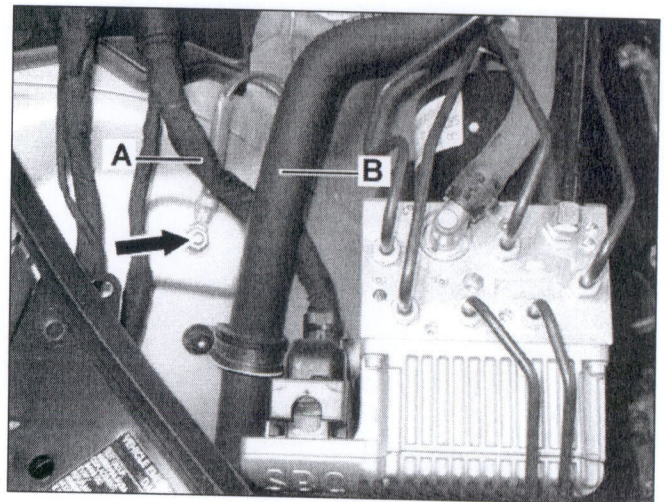

Figure 27
- Ensure wiring harness (A, Figure 27) and water hose (B, Figure 27) are not touching each other.
- Ensure tightening torque on ground terminal stud (arrow, Figure 27) is **between 7 and 10 Nm**.